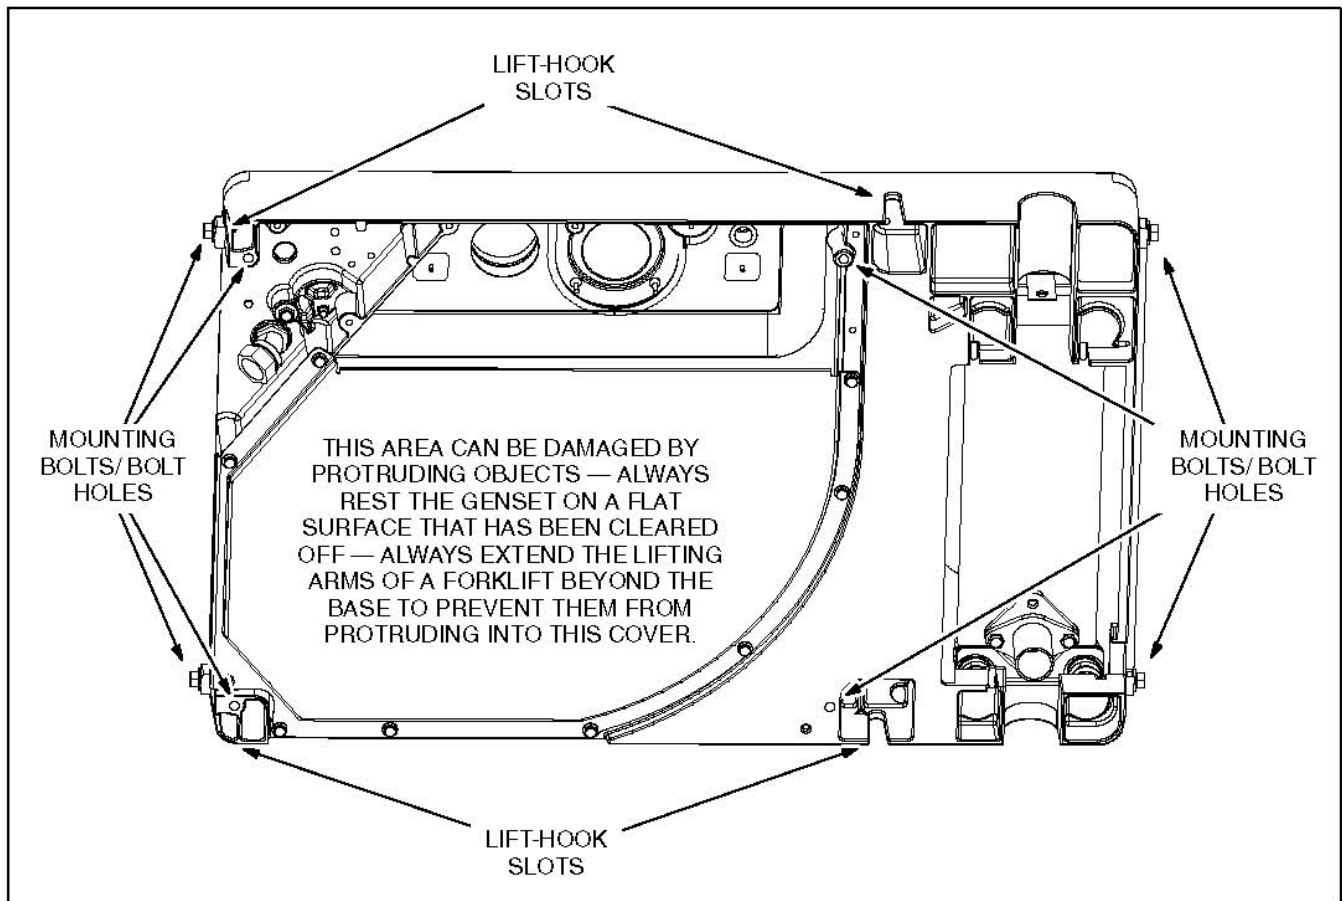

FIGURE 13. GENERATOR SET LIFT-HOOK SLOTS (MOUNTING BOLT HOLES) AREA THAT CAN BE DAMAGED
- Four 3/8 inch bolts into the ends or bottom of the base (Figure 13) are used to secure the generator set to special brackets from the vehicle floor, frame, or to frame members underneath (Figure 13).
- Four 3/8 inch bolts into the bottom of the base (Figure 13) are used to secure the generator set to the floor of the compartment.
Figure 13 illustrates the four lift-hook slots for generator set lifting. A lifting rig must spread the hook straps such that they do not crush or bend parts such as the control box, air filter and fuel lines while lifting. See the Specifications section regarding the weight of the generator set and make provisions accordingly for safe handling.